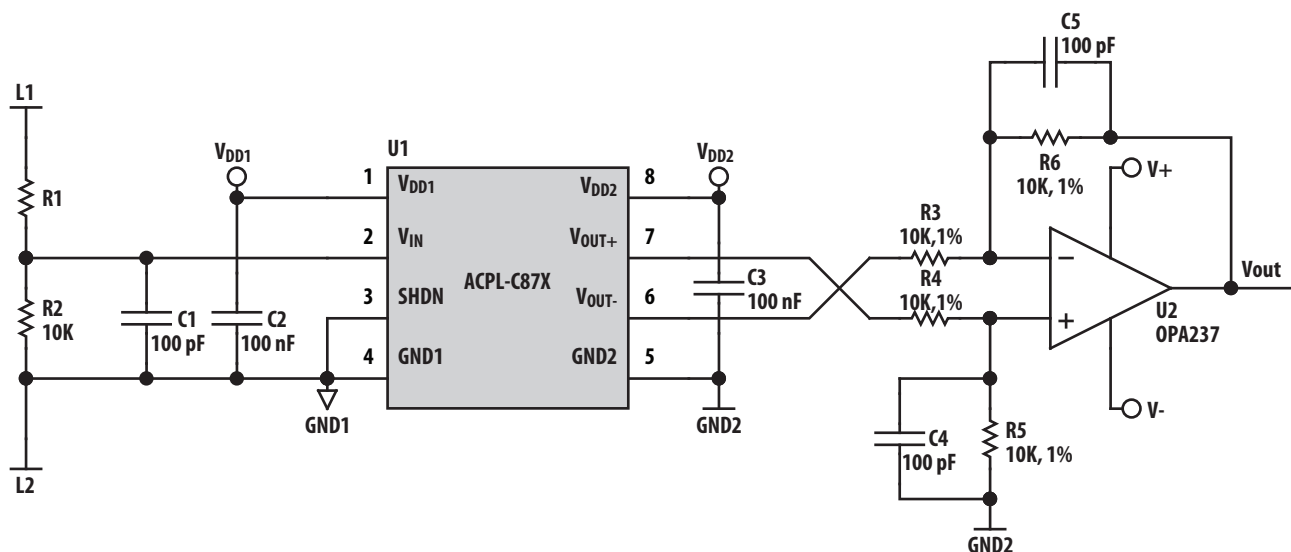
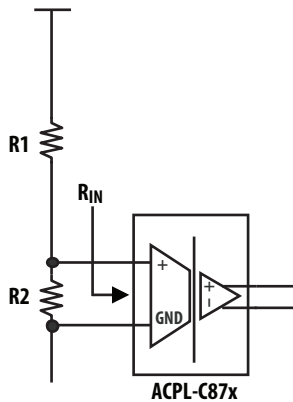

Figure 19. Typical application circuit.
Figure 20. Simplified Input Stage.
The typical application circuit is shown in Figure 19. The ACPL-C87X voltage sensor is often used in photovoltaic (PV) panel voltage measurement and tracking in PV inverters, and DC bus voltage monitoring in motor drivers. The high voltage across rails needs to be scaled down to fit the input range of the iso-amp by choosing R1 and R2 values according to appropriate ratio.
The input stage of the typical application circuit in Figure 19 can be simplified as the diagram shown in Figure 20. R_2 and R_{IN} , input resistance of the ACPL-C87X, create a current divider that results in an additional measurement error component that will add on to the tot on top of the device gain error. With the assumption that R_1 and R_{IN} have a much higher value than R_2 , the resulting error can be estimated to be R_2/R_{IN} .